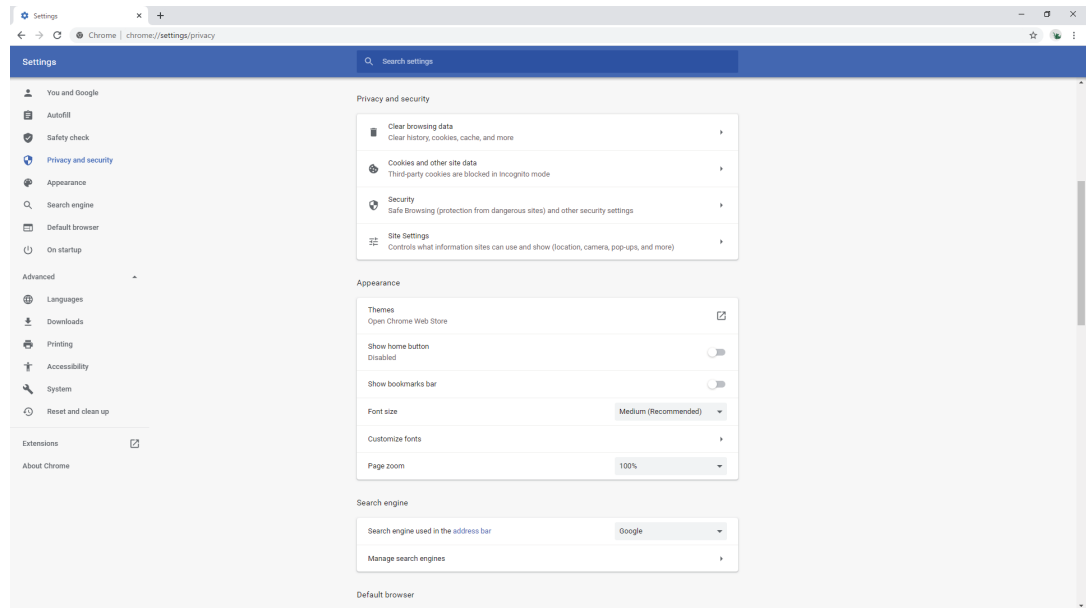

Figure 124. 'Settings' window.
- When the 'Settings' window is displayed, select **Clear browsing data** in Privacy and security (Figure 124). The 'Clear browsing data' window pops up (Figure 125).